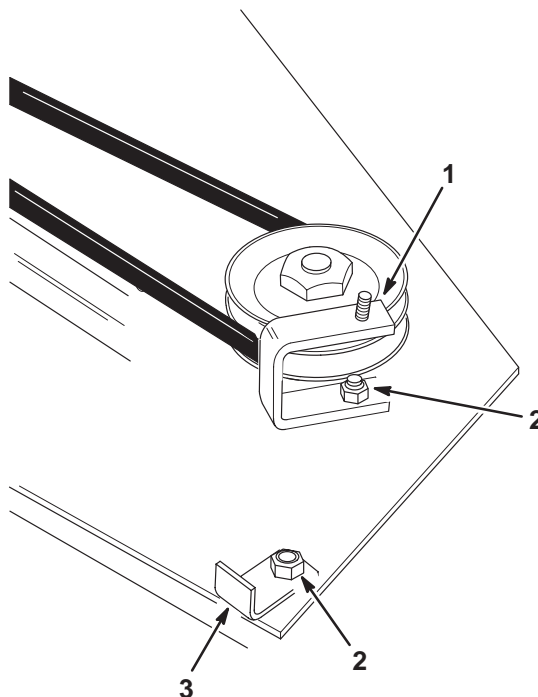

Figure 6
1. Fasten the spring clip to the deck using a 3/8"-16 x 1-1/4" (32 mm) hex bolt and locknut (Fig. 6).
2. Remove the existing fasteners from the spindle mounting hole in the deck, then fasten the belt cover bracket to the spindle hole using a 3/8"-16 x 1-1/4" (32 mm) hex bolt and locknut (Fig. 6).